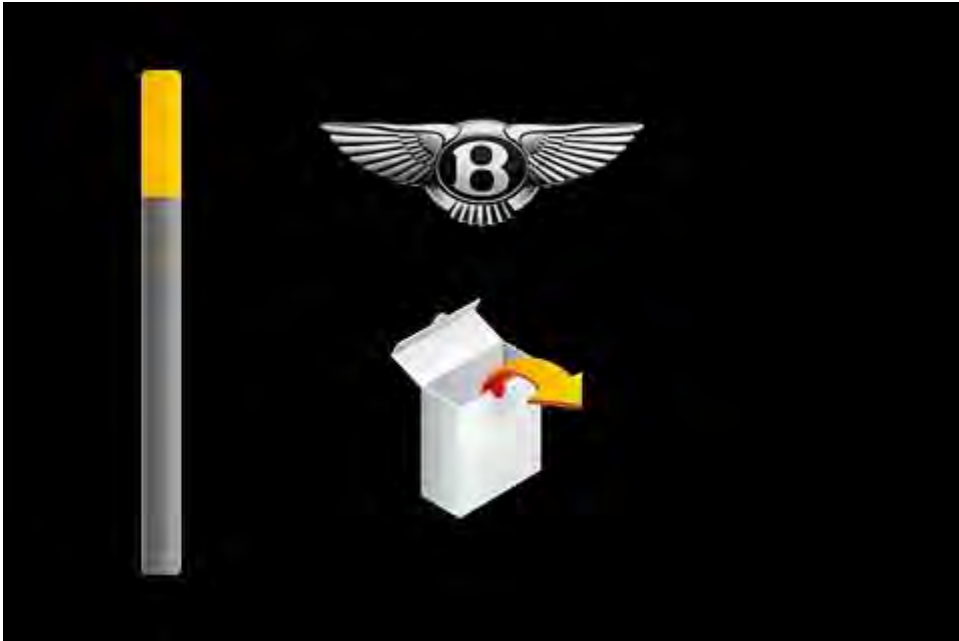

Figure 14
11. The TSR update will now take place as depicted on the TSR screen (see Figure 14)